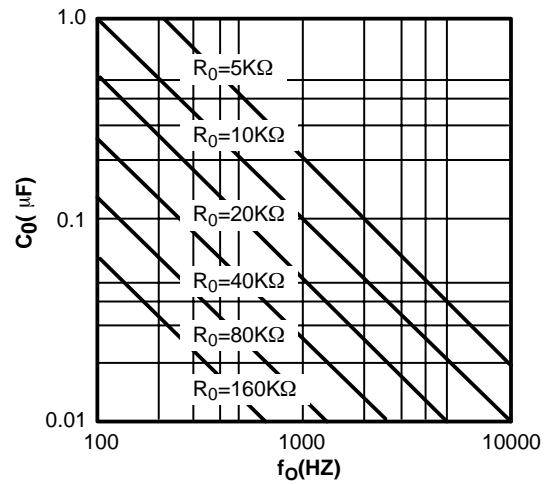

Figure 6. VCO Frequency vs. Timing Resistor
VCO Timing Capacitor (Pins 13 and 14): VCO frequency is inversely proportional to the external timing capacitor, C₀, connected across these terminals (see *Figure 6*.) C₀ must be non-polar, and in the range of 200pF to 10 μ F.
- Calculate value of C_0 from design equation (1) or from *Figure 6* $f_S = f_0$: